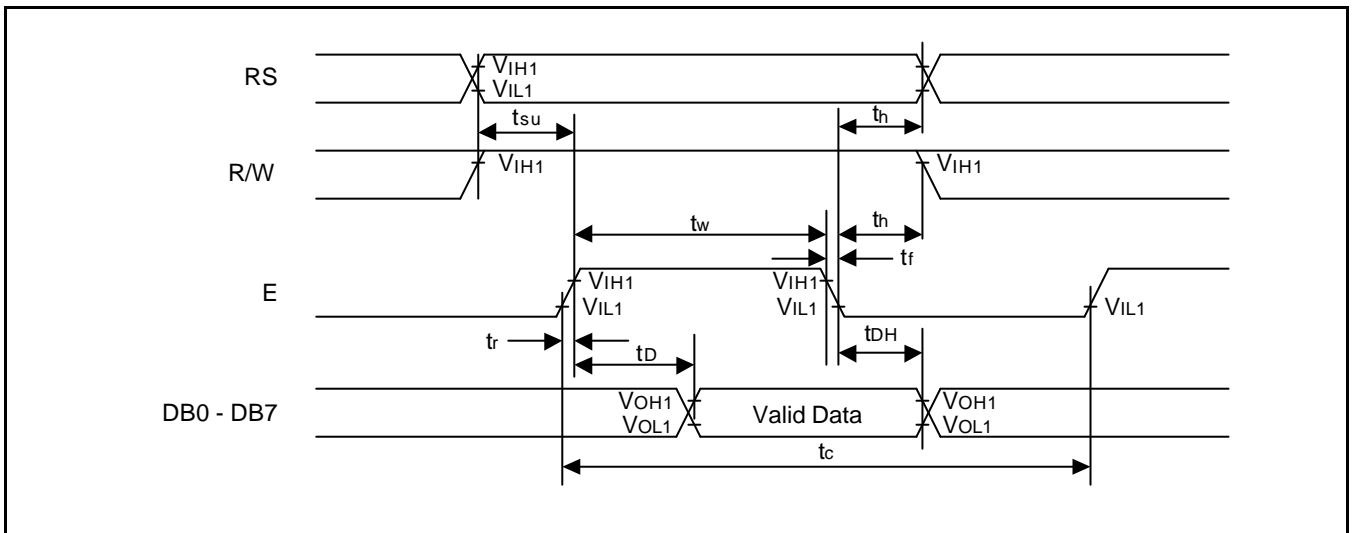

Figure 16. Read Mode
| (2) Read Mode(refer to Figure 16)                | E cycle time                   | tc              | 500 | –   | –   | ns   |
| (5) Read Mode(refer to Figure 16)                | E cycle time                   | $t_c$      | 1000 | –   | –   | ns            |